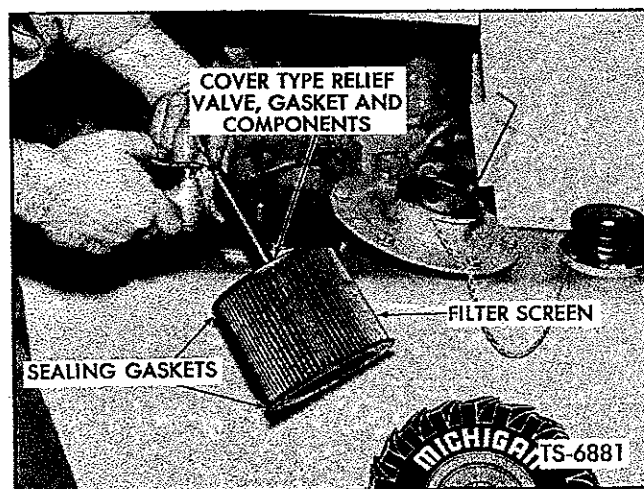

Fig. 46. Air Dry Filter Element and Inspect for Damage
4. Air dry element and relief valve components with filtered low pressure air as shown in Figure 46. Examine general condition of filter element checking for element cleanliness, deteriorated sealing gaskets, or screen damage. Replace deteriorated sealing gaskets with new gaskets using RUSCOE EPOXY CEMENT to secure new gaskets on element. If filter screen is damaged, replace with new element. Check relief valve components for any sign of damage replacing any component not in good serviceable condition.